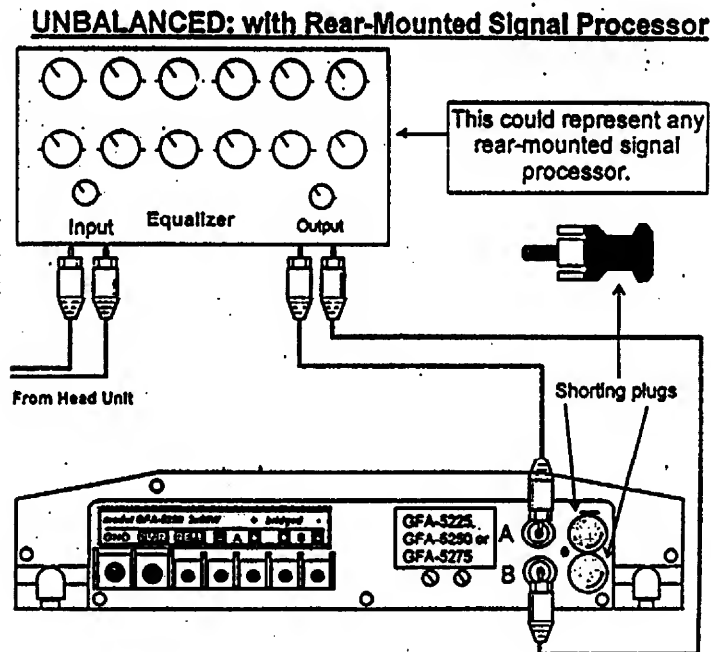

Fig. 6
**DO NOT RUN THESE AMPS UNBALANCED UNLESS THERE IS NO ALTERNATIVE.** The only time that this situation would come into play is if you were utilizing an equalizer or other signal-processor and could not mount it in the *front* of the vehicle. If the amplifier is used without the GFI-5200 you will need to use the supplied RCA Shorting Plugs (see Fig. 6). Since the GFI-5200 can provide a balanced signal with up to 18 volts of output, please be sure that if you omit the GFI-5200, that the EQ or signal processor is capable of delivering at least 2-volts of output.